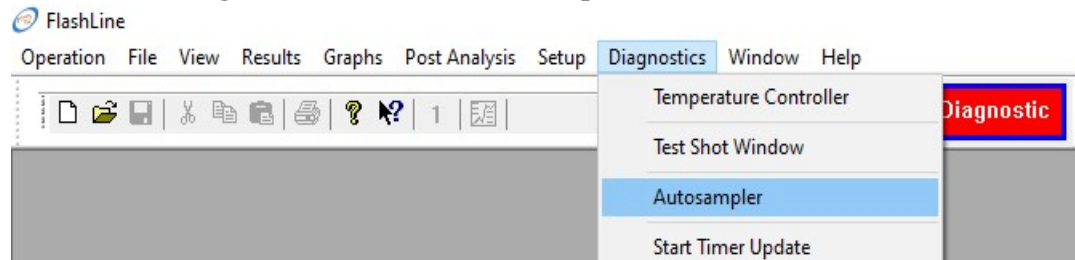

Figure 25 Diagnostics menu.
- 10 From the **Diagnostics** menu, click **Autosampler**. (Figure 25)